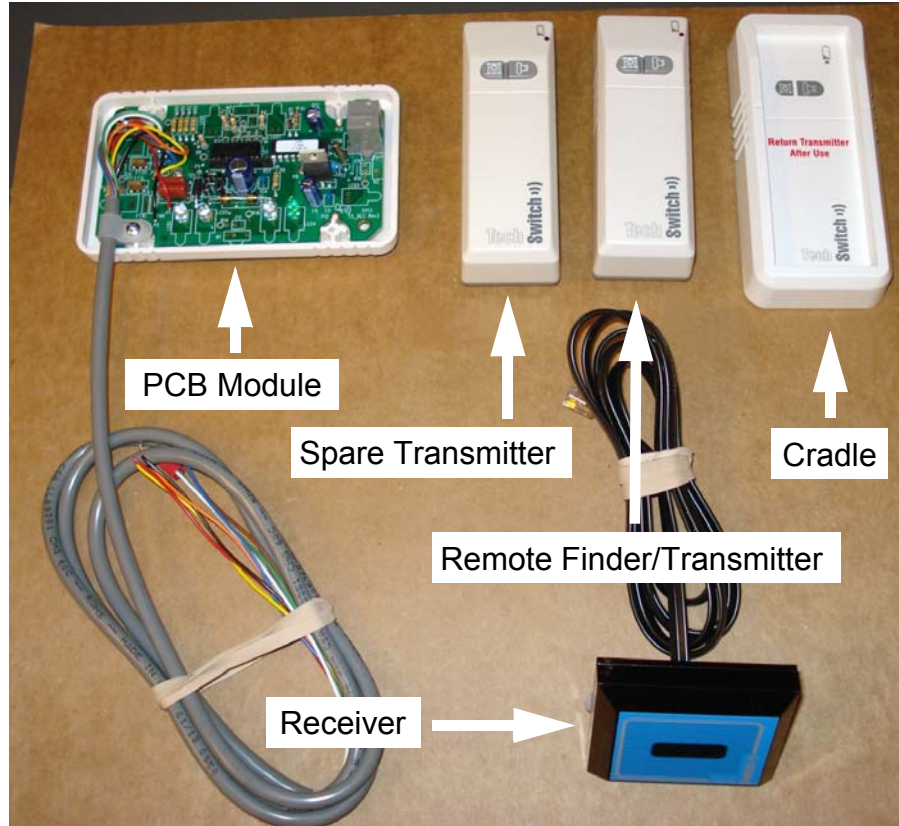
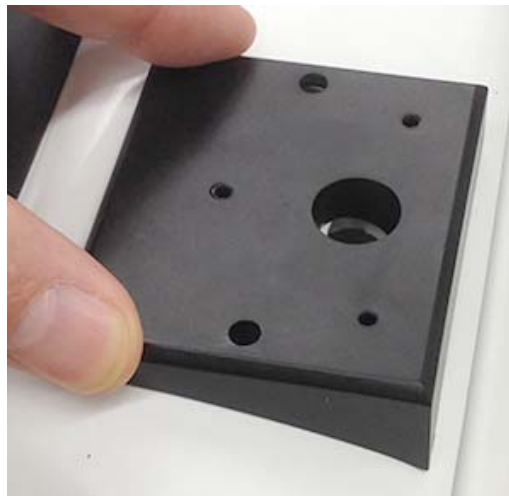

Figure 2-1 Wireless Handswitch Collector - 5503601
Figure 2-2 Receiver mount
2. Identify the components of the kit shown below (Table 2-1, Figure 2-1, Figure 2-2):
5503601	Wireless Handswitch Collector (see Figure 2-1): PCB Module (with cable) Spare transmitter Remote Finder/Transmitter Cradle Receiver (with cable)
5486733	Receiver Mount (see Figure 2-2)